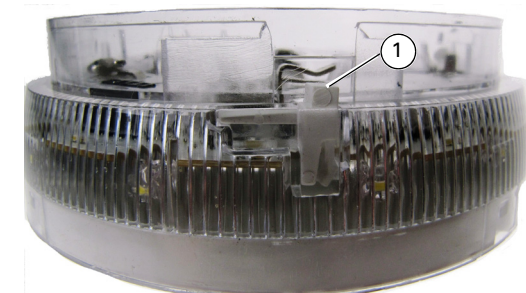

Fig. 5: Fitting Locking Device
- 5 Fit the locking device (supplied) to the base, pressing it in until it is fully seated (see Fig. 5).
- 6 Fit the locking device (supplied) to the base, pressing it in until it is fully seated (See Fig. 5).